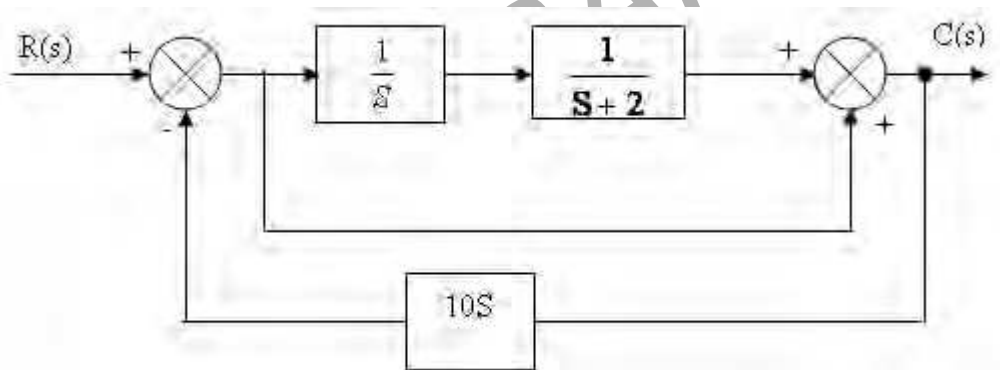

Figure 3:
1. (a) With reference to feedback control system shown in figure 3 define the following terms: